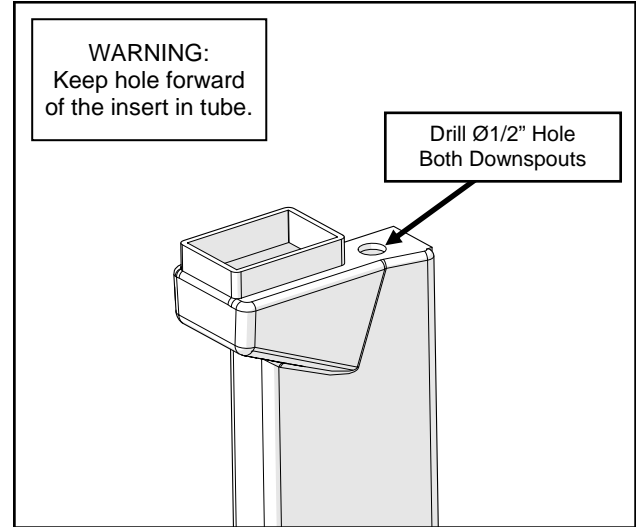

Fig. 1.2 (Drill Holes In Downspouts)
- 1.2 Per Figure 1.2, drill a 1/2" hole through the top of each downspout. This will be the final routing point of the drain hoses in a later step.